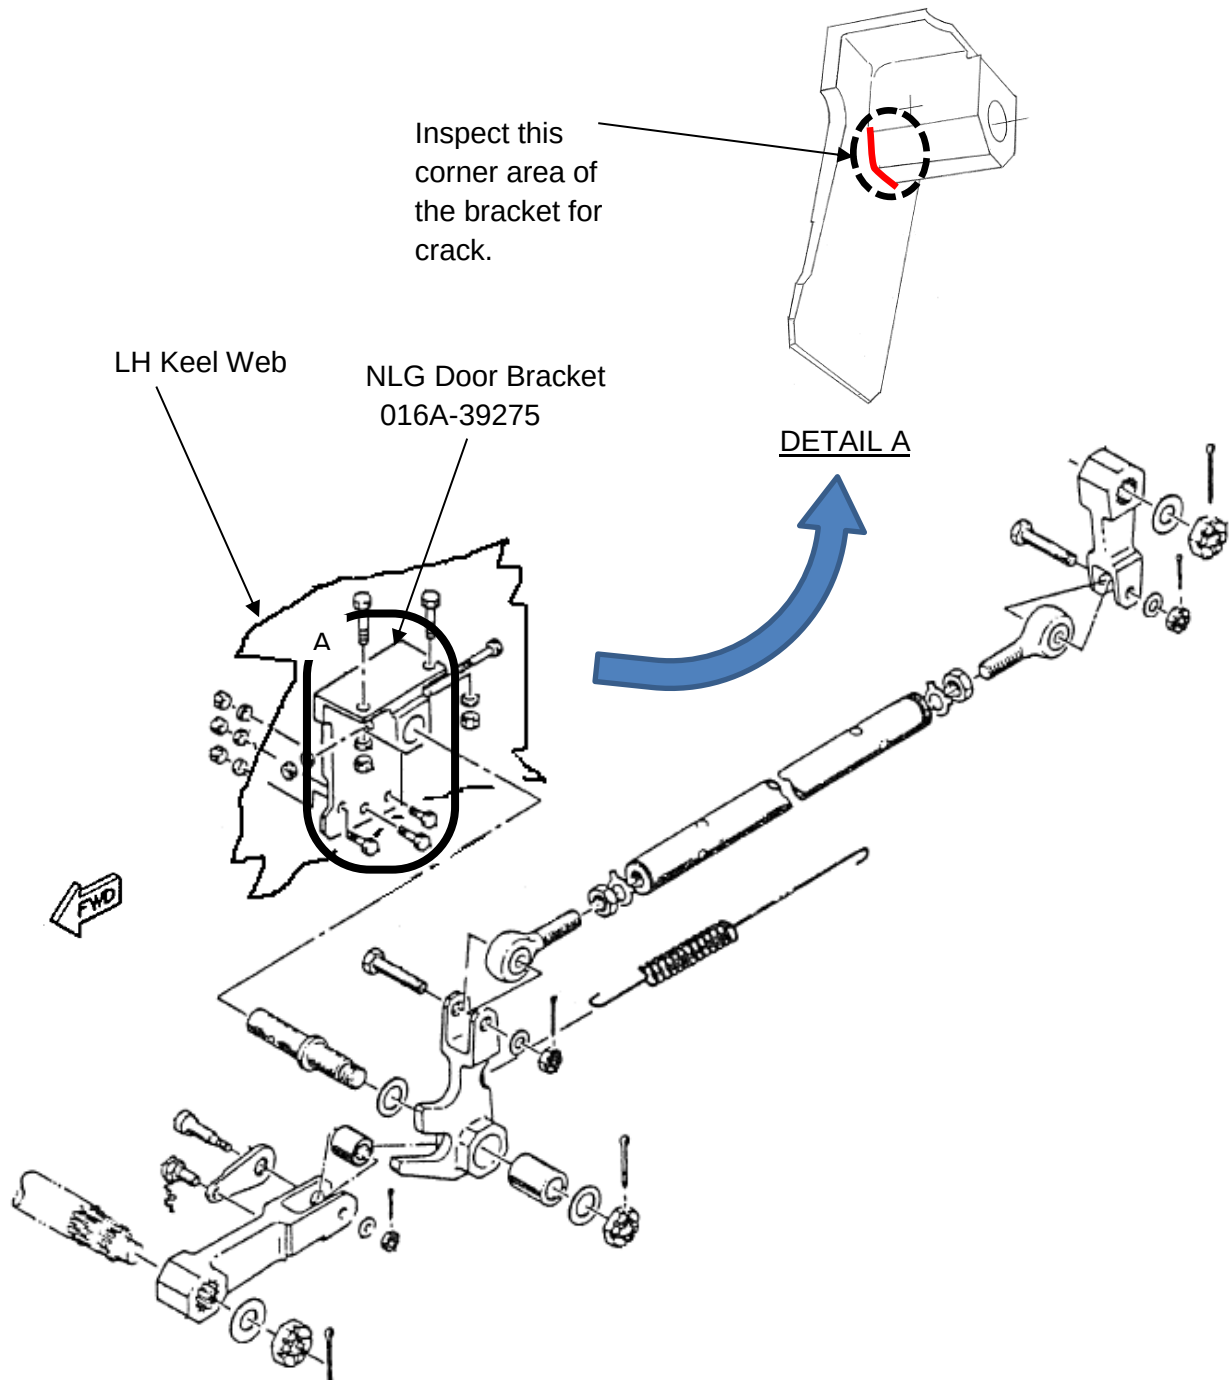

Figure 6: NLG Door Bracket
- (1) Visually inspect NLG Door Bracket (016A-39275) for cracks. (Figure 6)